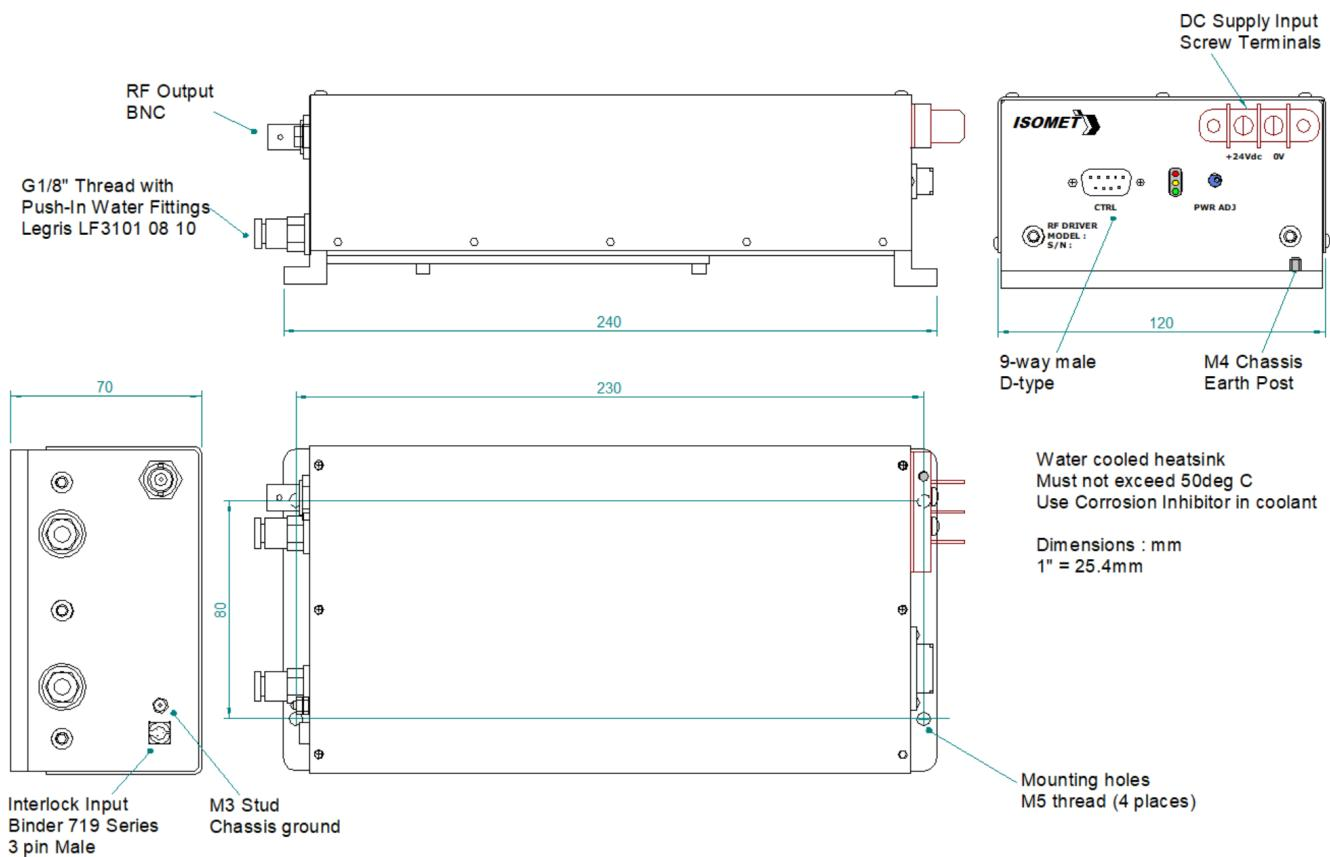

Figure 1: Driver Installation, mounting holes: 4 x M5
3.2 Connect the +24V (or +28V) and 0V DC supply to the feed-thru screw terminals as marked. See figure 1. (See page 9). DO NOT turn on DC supply until step 3.10